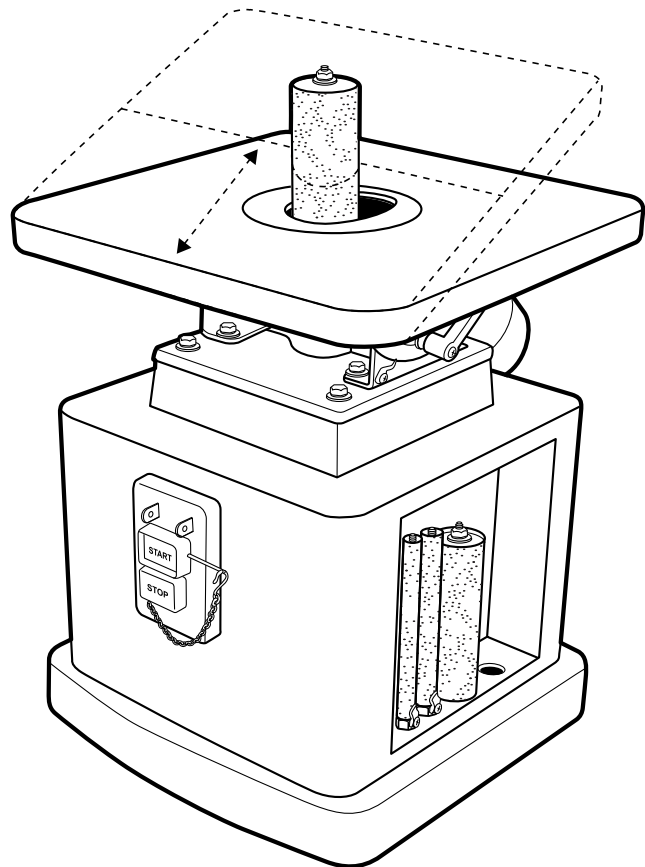

FIGURE 9
- Hold the work piece firmly and work from a stable standing position. When the table is fully horizontal (90°), you may sand from any part of the table. When the table is tilted, make sure the work piece is positioned on the front half of the table. (See Figure 9.)